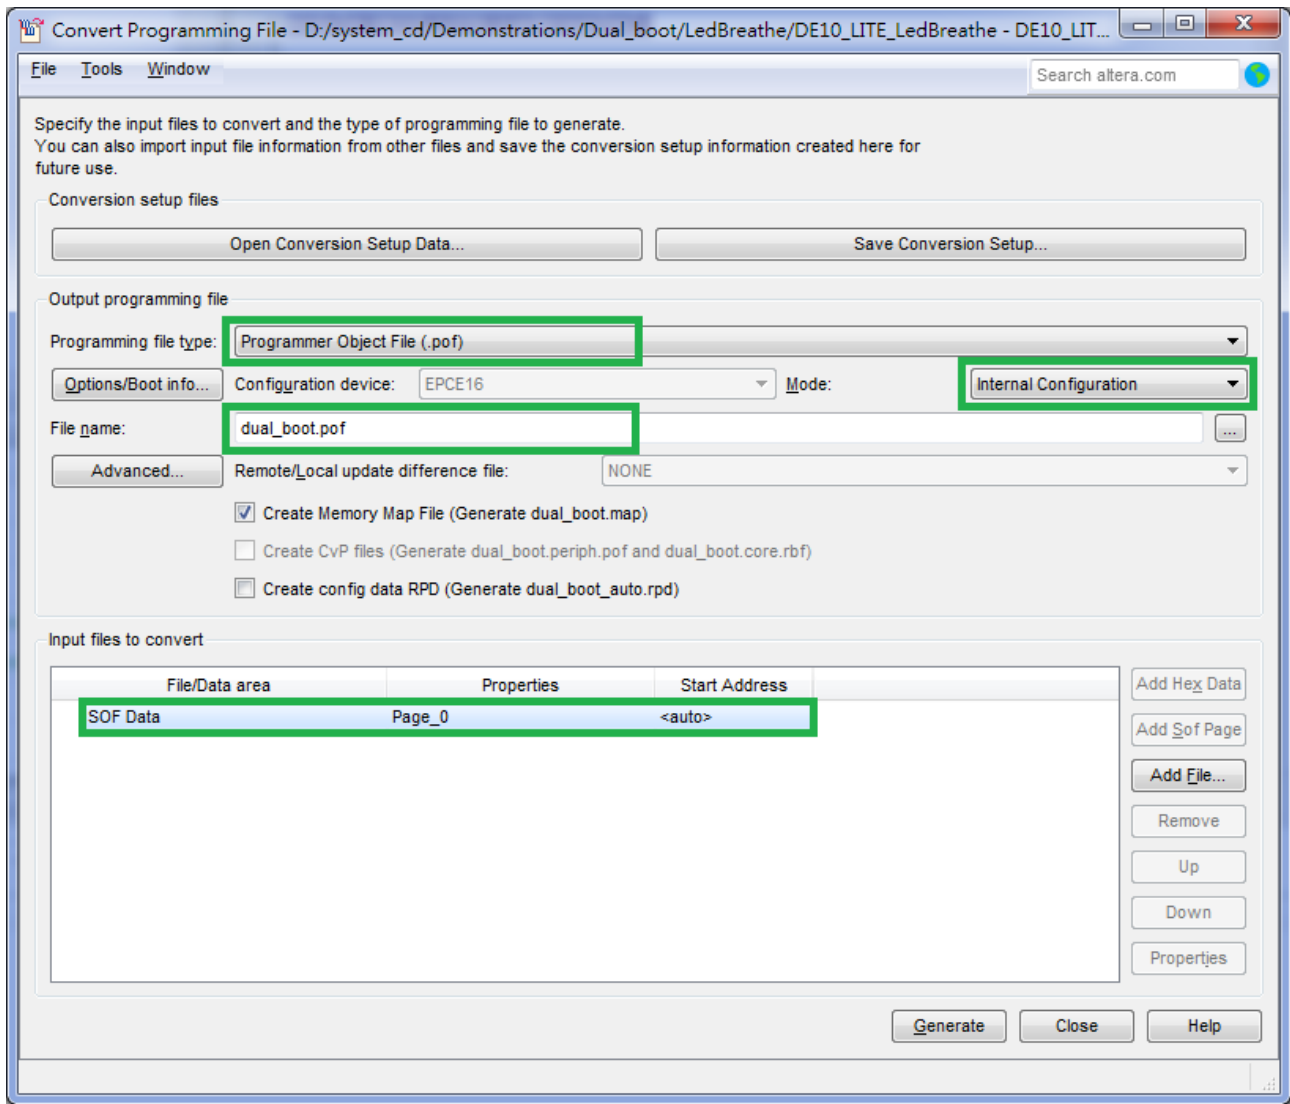

Figure 6-14 Dialog of Convert Programming Files and setting
5. Click on the **SOE data** in the section of **Input files to convert**, as shown in **Figure 6-14**.